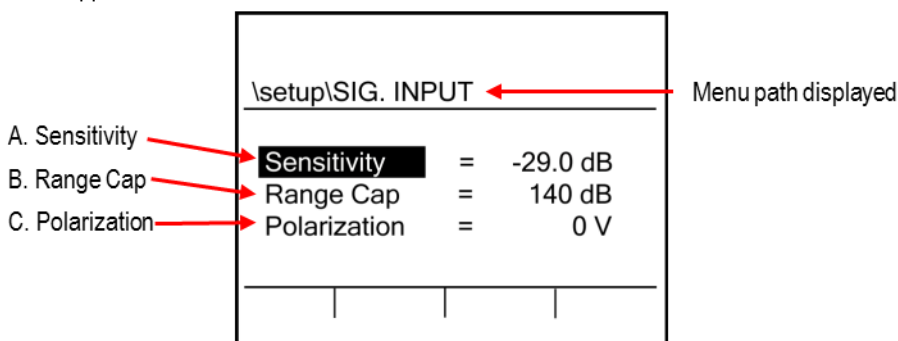

Figure 3-1: Microphone Settings (Signal Input screen)
4. Signal Input **options** are explained below (refer to Figure 3-1 above).